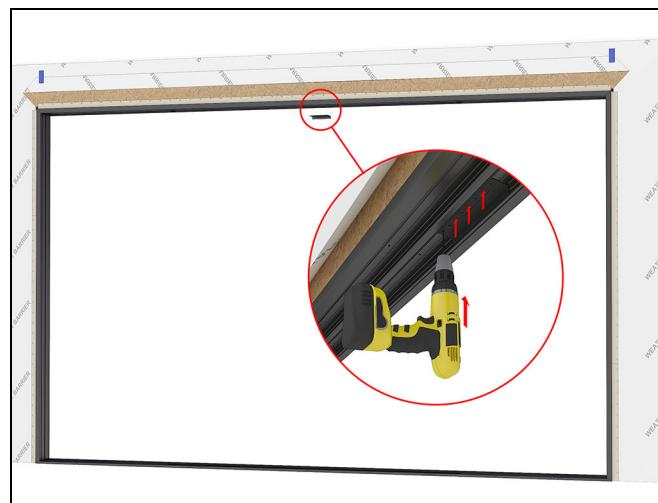
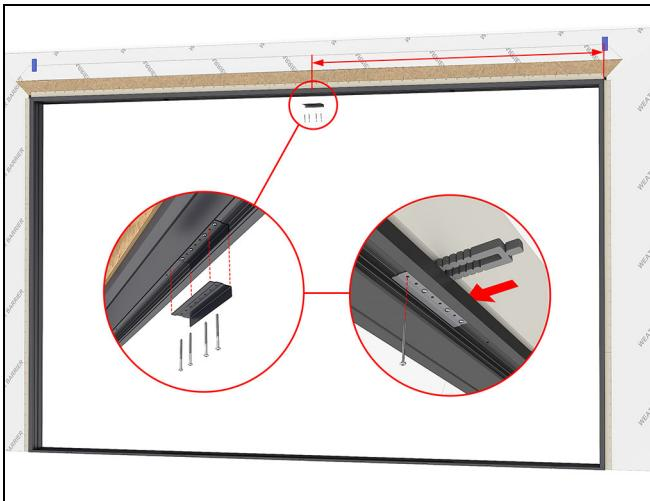

Figure 158 XOOX
Figure 159 XOOX
2. Using the bracket as a template, pre-drill a 3/16" hole at each outside hole and at least once more in the middle. **See Figure 158 and Figure 159.**
3. Fasten through the bracket into the head jamb with #10 x 3" installation screws at each pre-drilled location. Shim above the head jamb at the bracket as needed. Be careful not to bow the headjamb. **See Figure 159**